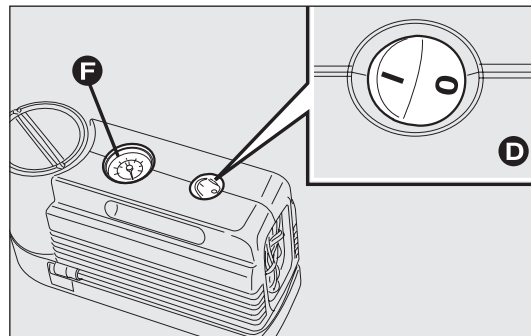
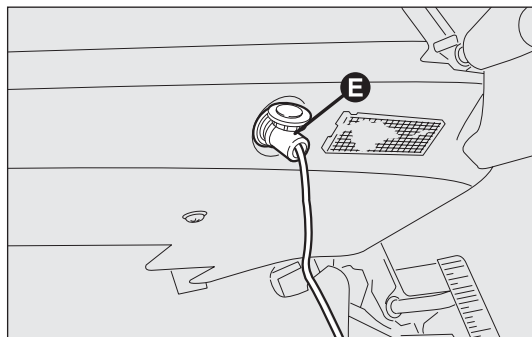

fig. 130
fig. 131
- ❑ make sure that switch D-fig. 130 for the compressor is in position O (off), start the engine, insert pin E-fig. 131 into the nearest socket and switch on the compressor by moving switch D-fig. 130 to position I (on). Inflate the tyre to the pressure value specified in paragraph “Inflation pressure” in chapter “Technical specifications”.
Check tyre pressure on gauge F-fig. 130 with compressor off to obtain precise reading;